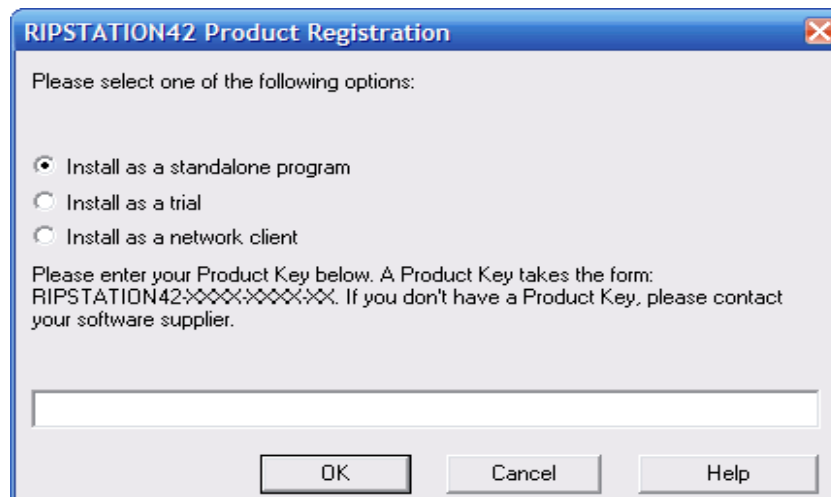

Figure 1.0 – Product Registration Code Screen
- When prompted, as shown in figure 1.0, please key in the registration code supplied at the time of purchase or upgrade and click ok.